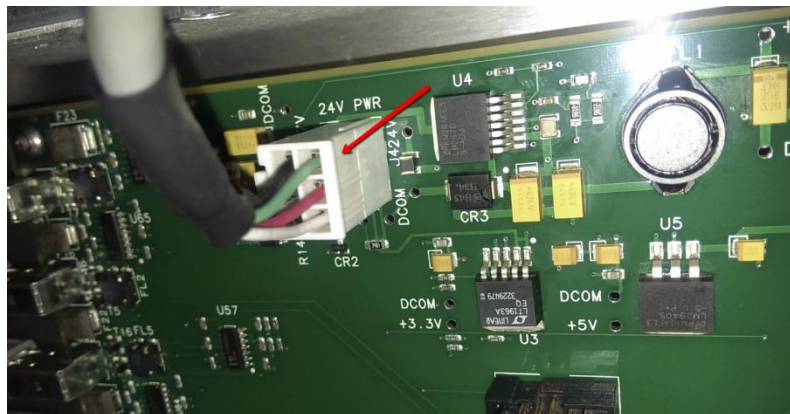

Figure 4 Trigger board power removal
6. Disconnect the power cable from J424v connector as Figure 4.